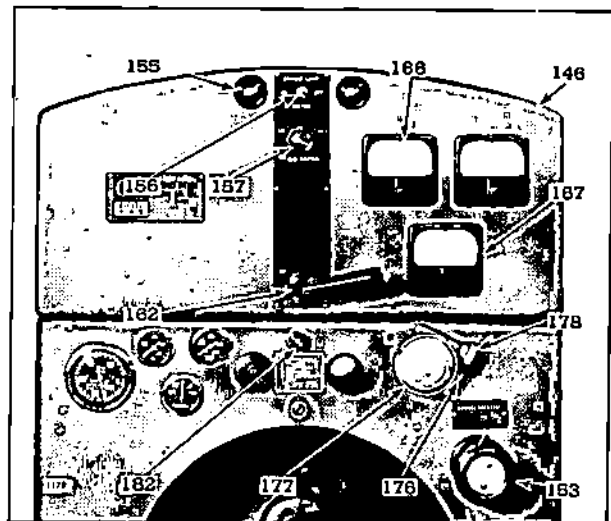

Fig. 2 - Typical Control Cabinet
4. Refer to Fig. 2 and place the circuit breaker (162) in the OFF position.
5. Place field switch (157) in the OFF position.
6. Place the ground lamp switch (156) in the OFF position.
7. Turn the manual field rheostat control (153) counterclockwise to its lowest limit.
Press the throttle button (176) and turn the throttle control (177), Fig. 2, counterclockwise to a position midway between RUN and STOP. Then, press the starter button (182) firmly.
1. Rotate the throttle control (177), Fig. 2, counterclockwise to the RUN position.
2. Turn the vernier throttle knob (178) and adjust the engine speed approximately 50 rpm above the rated full load speed.
2. Adjust the speed to NO-LOAD operating speed with the vernier throttle knob (178), Fig. 2.
3. Adjust the manual field rheostat control (153) of the incoming unit until the voltage is the same as the existing line voltage.
4. Close the switch in the equalizer lines and then place the circuit breaker control (162) in the ON position.
1. Turn off all the load on the generator when stopping single engine unit. Shift the load from the generator when taking a unit out of parallel operation by turning the manual field rheostat control (153), Fig. 2, until the ammeter (186) reads approximately zero.
2. Place the circuit breaker control (162) in the OFF position.
5. Press the throttle button (176) and turn the throttle control (177) to STOP to shut-down the engine.